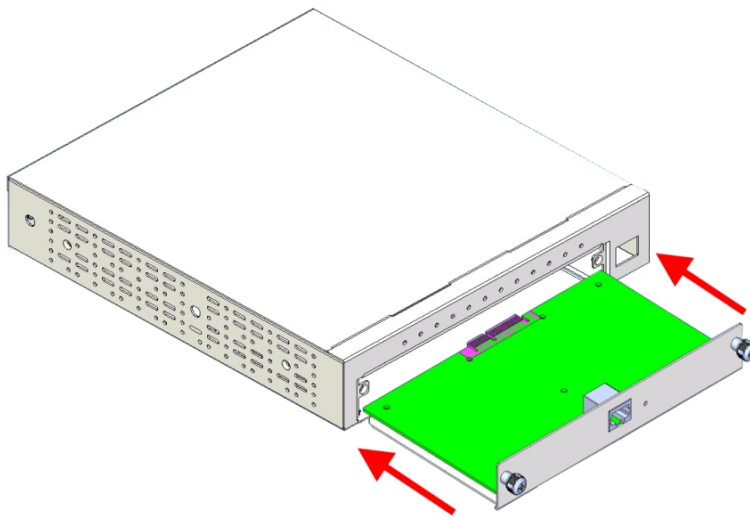

Fig. 9: Inserting the expansion card
- (6) Finally, insert the tray into the device once again using the appropriate guides. See *Fig. 9* on page 10.